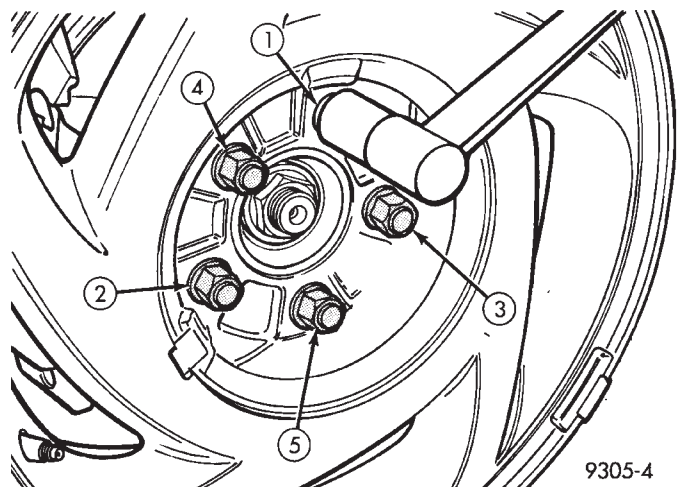

Fig. 9 Tightening Wheel Nuts
(5) Install wheel and tire assembly on vehicle. Install the wheel and tire assembly. Tighten the wheel mounting stud nuts in proper sequence (Fig. 9) until all nuts are torqued to half specification. Then repeat the tightening sequence to the full specified torque of 129 N•m (95 ft. lbs.).
(6) Lower vehicle.
(5) Lower vehicle.
(6) Connect rear speed sensor cable connector, to vehicles wiring harness connector (Fig. 9). Be sure locking tab on connector is securely latched.
(7) Install the rear seat back cushion and seat lower cushion back into vehicle. Refer to group 23 Body in this service manual for required rear seat cushion removal procedure.